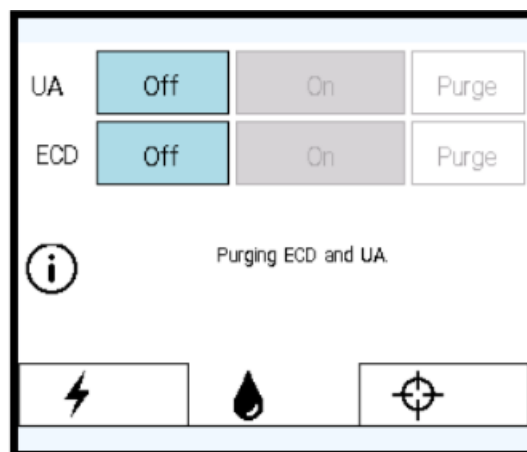
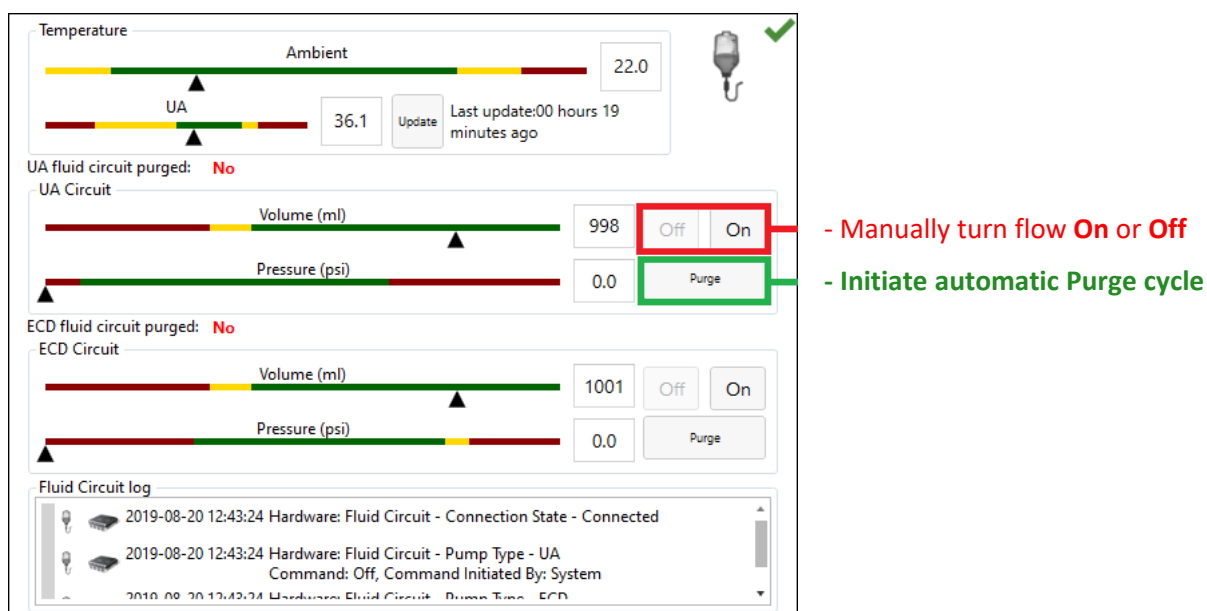

Figure 11: PSIB Display - Fluid Circuit tab
Figure 12: Fluid Circuit information box in TDC Setup workspace
5. On the PSIB display, choose the **Fluid Circuit** tab  (Figure 11) and **Purge** the UA and ECD fluid circuits. You can also do this from the TDC by pressing **PURGE** beside the fluid circuit (FC) quadrant (Figure 12).
- a. If the purging cycle ends before completing the steps in this process, return to the PSIB display (or TDC window) and manually turn the flow on by clicking **On**. The fluid pumps will remain on until you click **Off** (*Figure 12*).